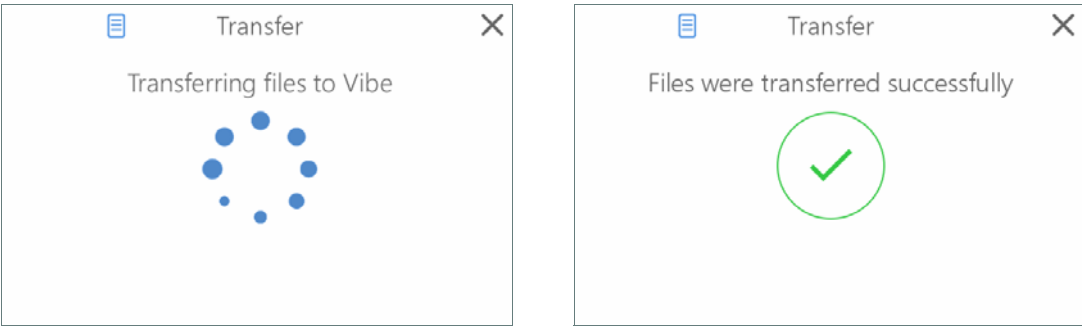

FIG. 52 Transfer - Transferring files to Acendo Vibe
4. Click **Yes** it to proceed (or select *No* to cancel this operation). The system indicates the progress of this transfer, and indicates when the transfer is complete (FIG. 52):